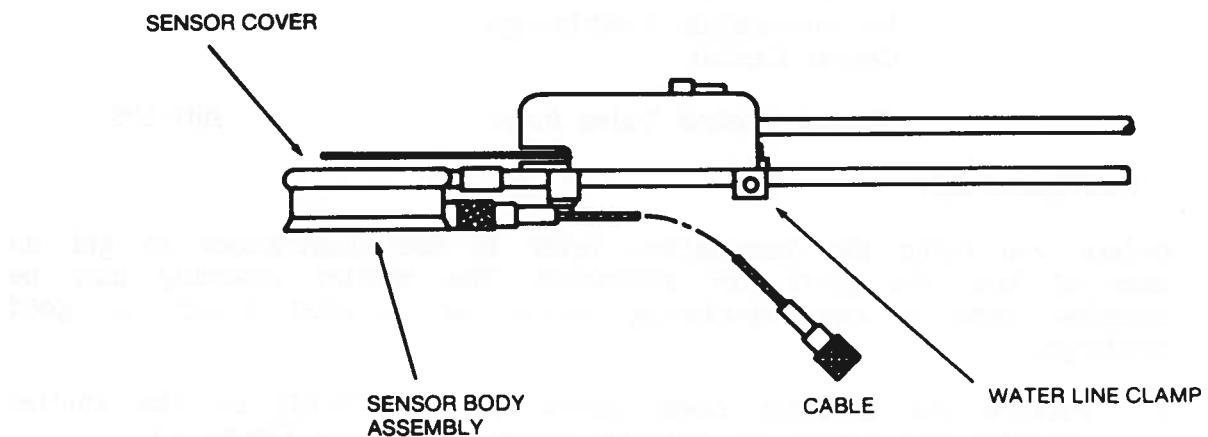

Figure 2 - Side View
3. Remove the sensor body assembly from the sensor cover and set it in a clean safe place. This is to protect the head during the installation. (Reference Figure 2.)
7. The plane of the shutter and sensor cover should be parallel as shown in Figure 2. Again, it may be necessary to align the sensor slightly to achieve correct positioning.
11. Install the sensor body assembly into the sensor cover. The assembly will now appear as Figure 2.